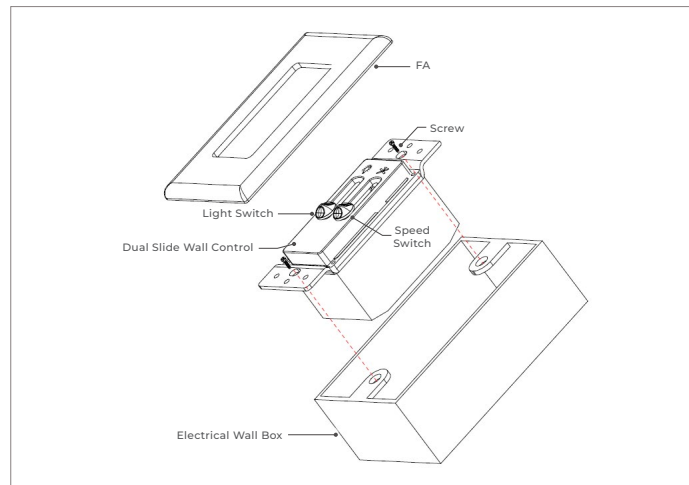

FIGURE 3
F) Secure the WS wall-mounted control to the electrical wall box with two screws provided. (Figure 3)